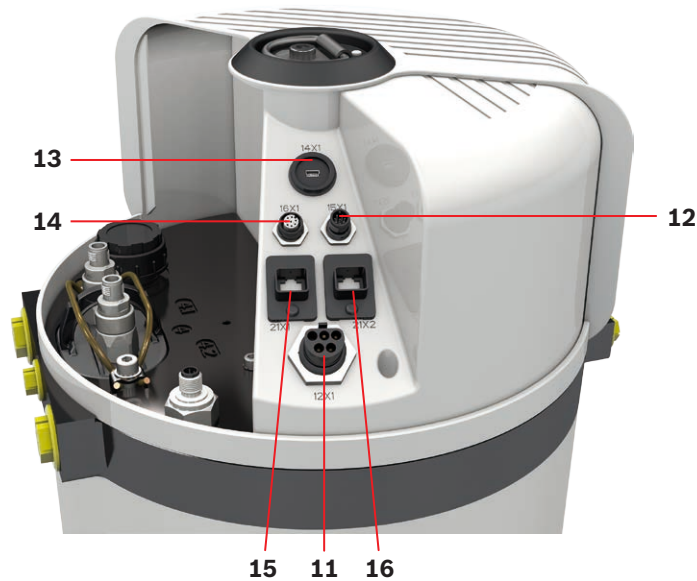

Fig. 18: Electrical connections
In "Premium" configuration, the hydraulic power unit can be connected to the superior machine control system via multi-Ethernet interfaces 21X1 (pos. 15) and 21X2 (pos. 16), see fig. 18.